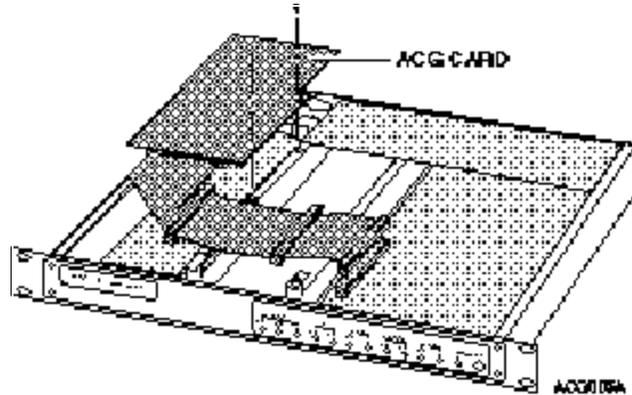

Figure 2. Removing the ACG Card
4. Remove the ACG Card, if installed, by removing the two phillips screws securing the card to the bracket. Slide the ACG Card forward until the connectors clear the back panel. (See Figure 2)